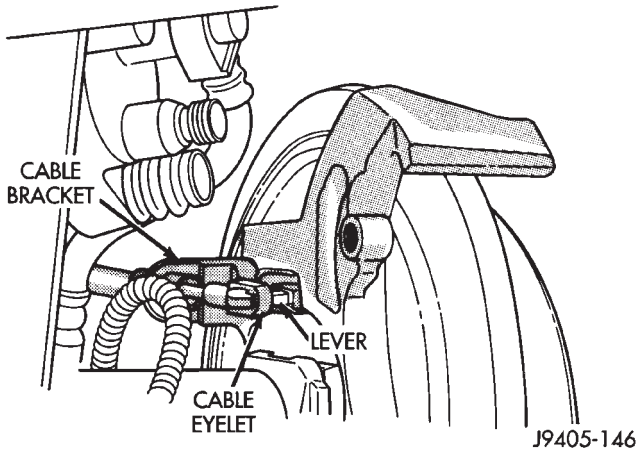

Fig. 45 Rear Cable Attachment
(2) Disengage cable at equalizer. Then disengage cable from body and chassis clips and retainers.
(3) Slide cable eyelet off actuating lever (Fig. 45).
(4) Compress retainer securing cable in bracket attached to caliper bracket. Then remove cable from bracket.